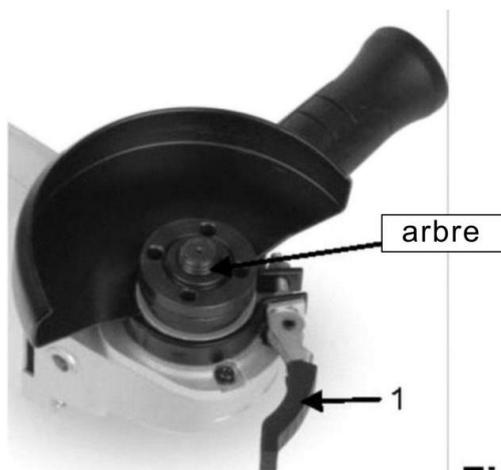

Fig.2
5.3 MONTER LA PROTECTION (FIG. 2 - 3)